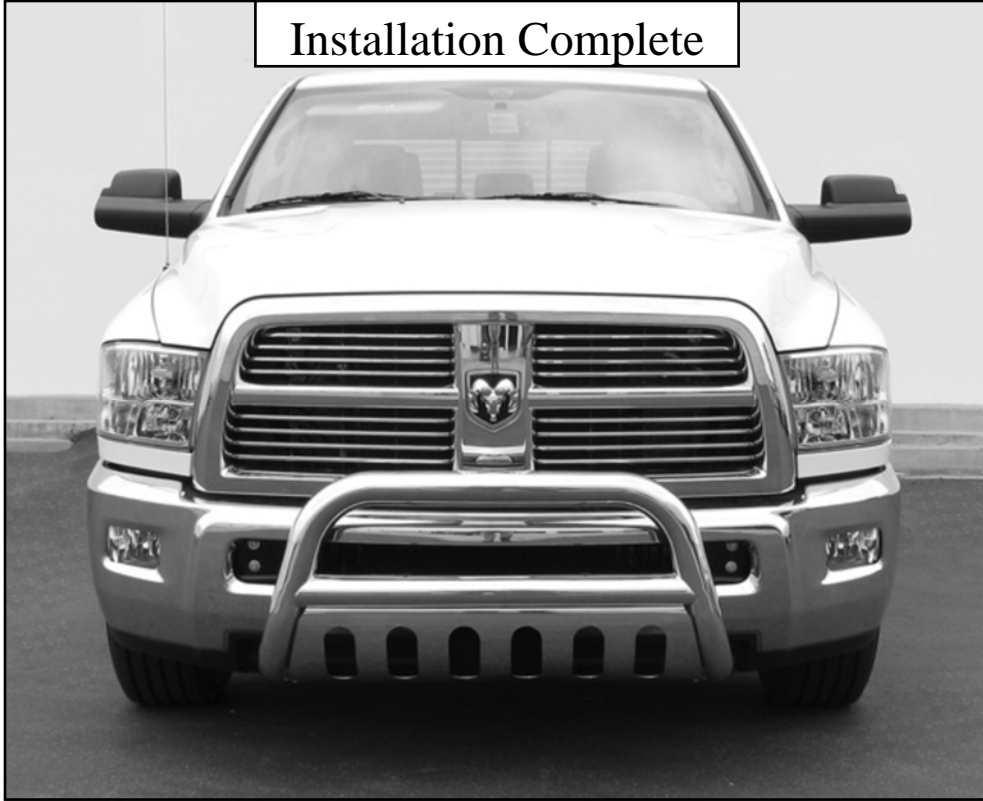

Fig. 4
5. Position the Bull Bar up to the outside of the frame mounting brackets. Attach it using four (item 4) M10 hex head bolts, eight (item 5) M10 flat washers, four (item 6) M10 lock washers, and four (item 7) M10 hex nuts. Do not fully tighten at this time. **See Fig. 4.**